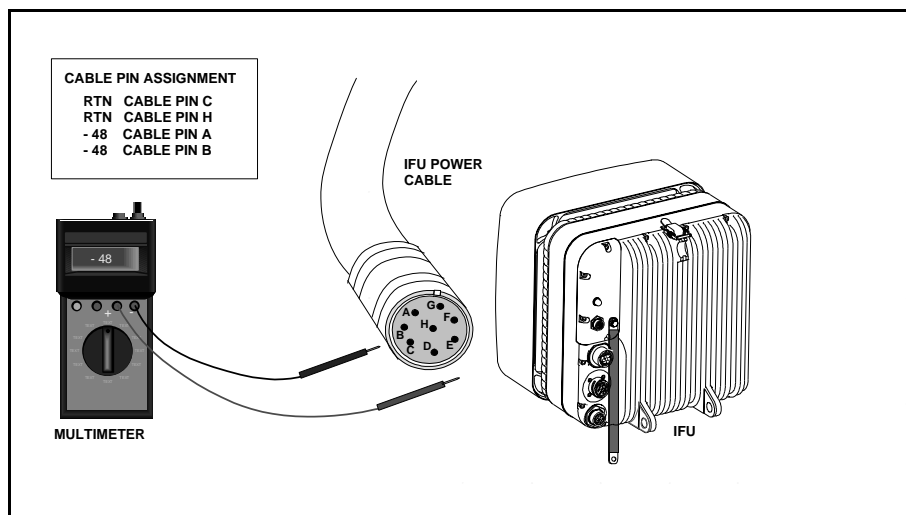

Figure 2-3. Power Test Setup
- 5 Connect a black test lead from the **negative** input of the multimeter to pin C on the IFU power cable (see Figure 2-3).